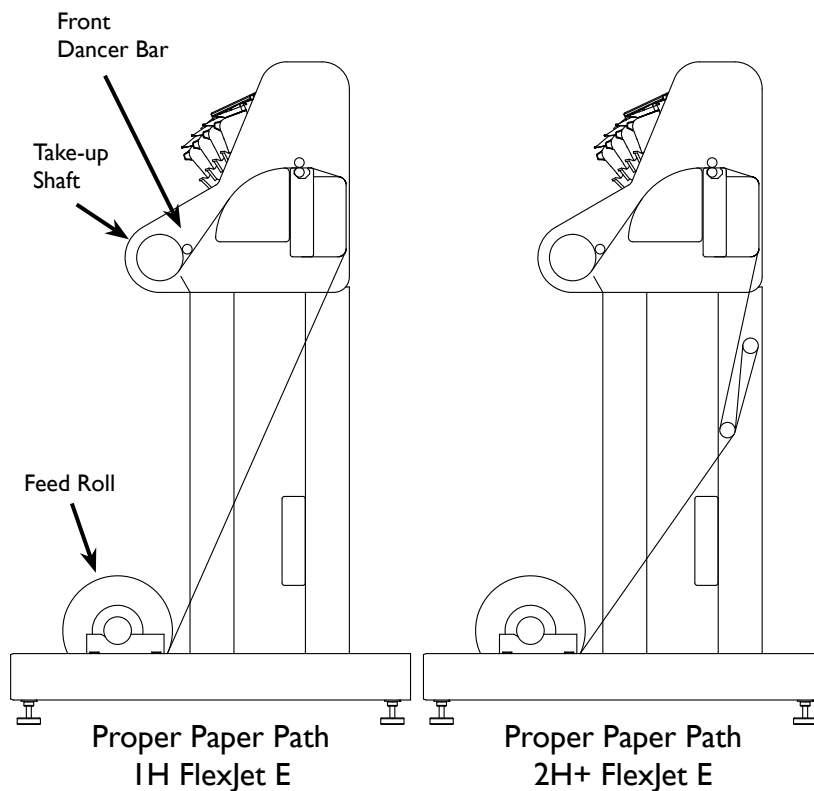

Figure 20. The correct paper feeding path on the Ioline FlexJet E printers. (See the *StudioJet Quick Start Guide* for paper path instructions for the StudioJet.)
Figure 20 represents the proper paper path. The left side of the diagram shows the paper path for a 1H FlexJet E. The right side shows the proper path for a FlexJet E with 2 or more heads.
4. Grasp the front edge of the paper with both hands and pull 20-in (51-cm) of paper over the platen and gray top bar and under the take-up shaft. (See *Figure 20* for the proper paper path.)